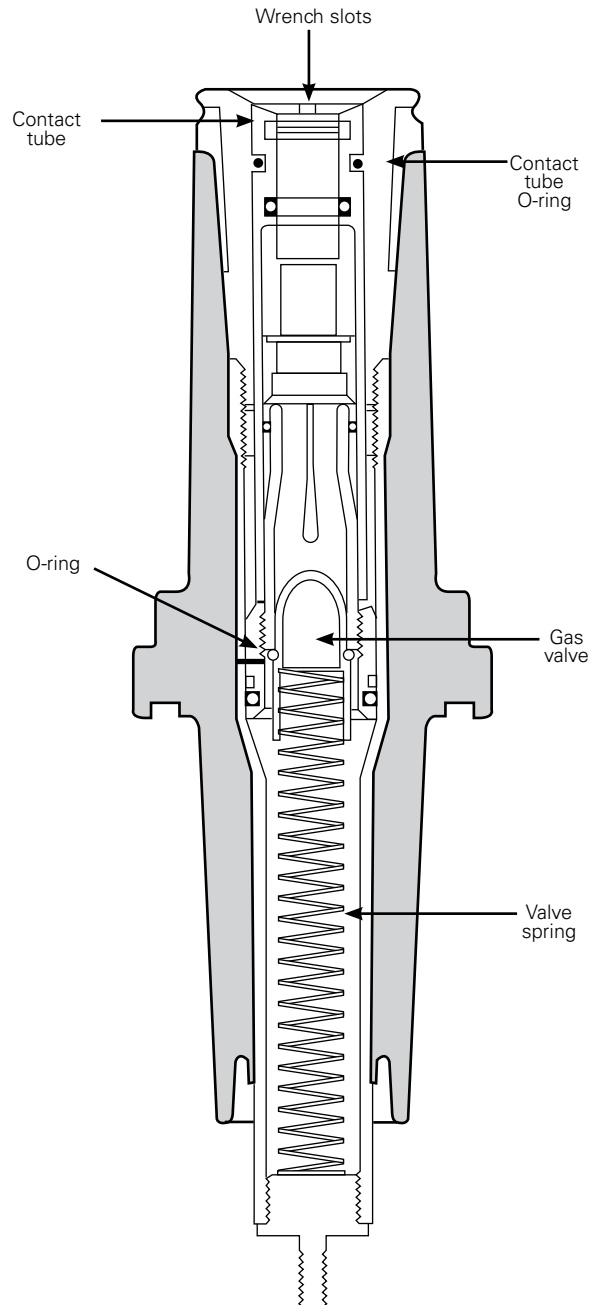

Figure 2. Installation of contact spring/gas valve into bushing.
- Engage the driving blades of the contact tube removal wrench into two of the slots at the end of the contact tube. See Figure 2.
- Remove the gas valve and valve spring from the bushing. If you cannot obtain the gas valve/spring, push valve back in and let the spring push it out to where you can grab it. See Figure 2.
- Assemble the new gas valve onto the valve spring. Install the valve spring/gas valve into the bushing. See Figure 2.